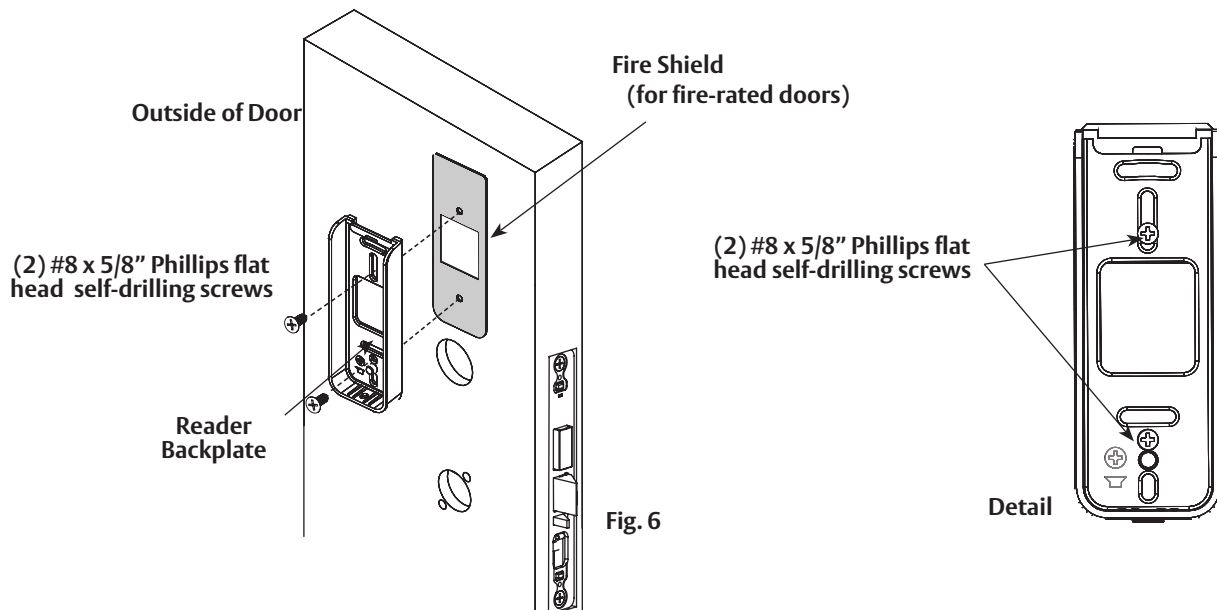

Fig. 6
- a. For fire-rated doors only, install reader backplate and fire shield to door using two (2) #8-18 x 5/8" Phillips flat head self-drilling screws (Fig. 6).
- b. For exterior doors, install reader backplate and gasket using two (2) #8-18 x 5/8" Phillips flat head self-drilling screws.
- c. For non-fire rated interior doors, no fire shield or gasket is required; simply install backplate using two (2) #8-18 x 5/8" Phillips flat head self-drilling screws.